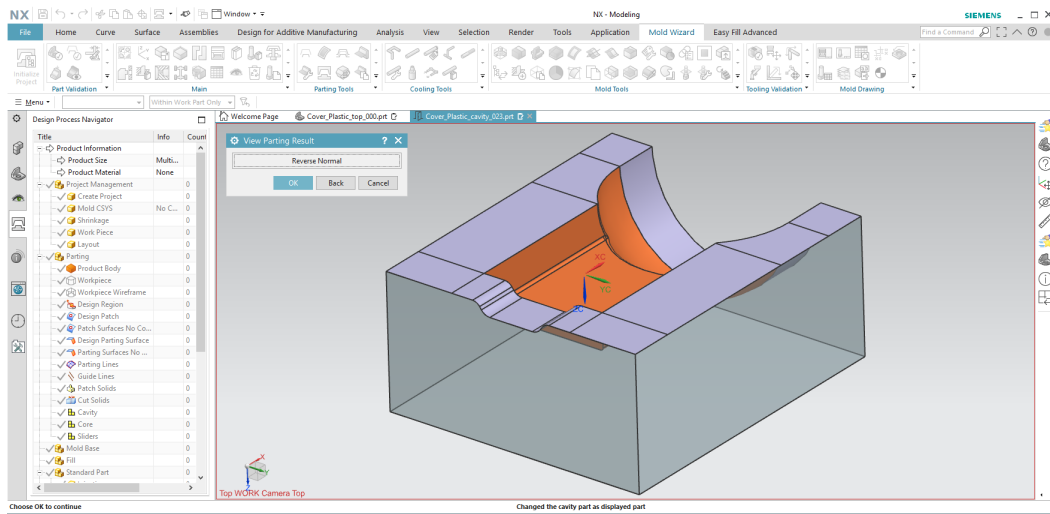

*Figure 15-105 The Define Cavity and Core dialog box*
1. Choose the **Define Cavity and Core** tool from the **Parting Tools** gallery of the **Mold Wizard** tab; the **Define Cavity and Core** dialog box is displayed, refer to Figure 15-105.